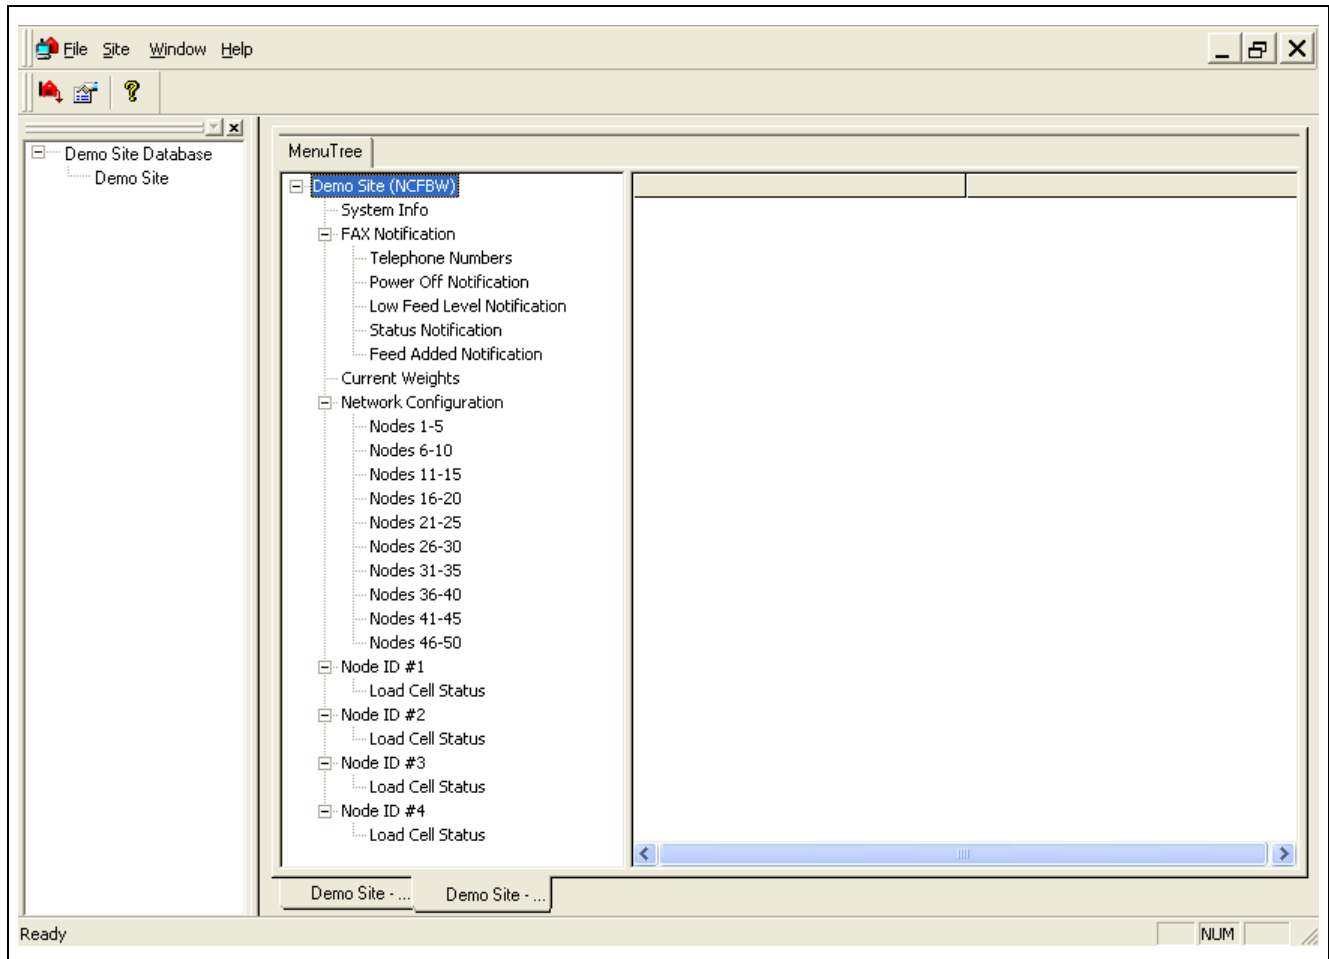

Figure 11J Connection Manager
- b. Once a connection is made, an access code will be prompted for. The default is 000. *(See Figure 11j.)*
- a. Once a connection is made, the menu tree folder or simply the list of configuration items for a network collector are displayed. (See Figure 11J.)